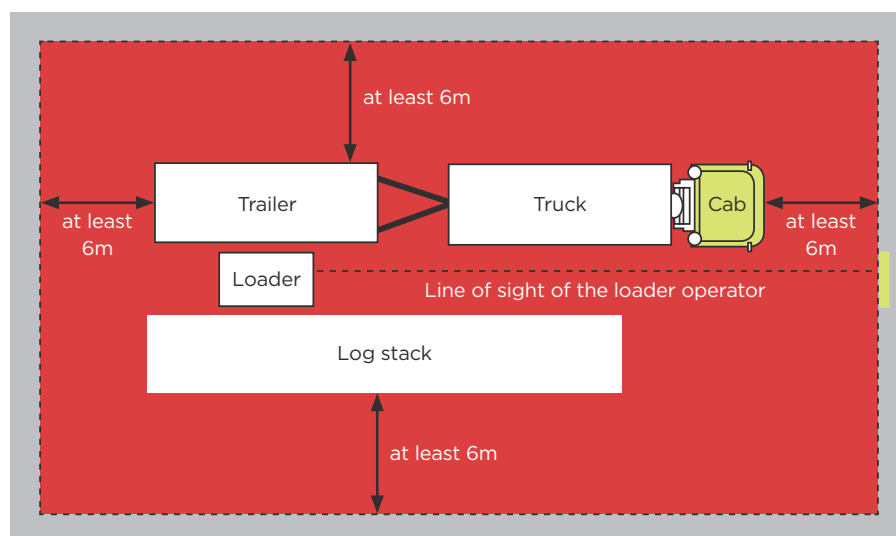

FIGURE 32:
- 24.3.18 The loading zone where all persons on the ground are excluded from is shown in red (Figure 32). The loading zone is considered to be a minimum of 6m around the truck cab and trailer and log stack. If long logs are being loaded, this zone may need to be increased.